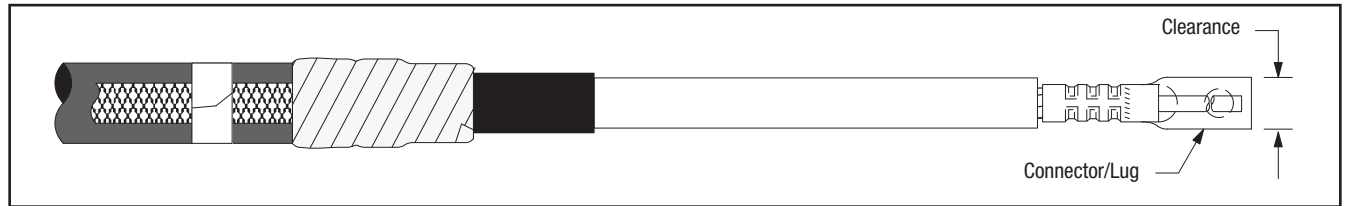

Figure 6
- 4.1 Check to insure 3M Cold Shrink QT-III Silicone Rubber Termination assembly fits over the selected lug or connector BEFORE installing the lug or connector. If lug or connector. (Figure 6) will not fit through the termination core, clean the insulation (per Step 5.0) and slide termination on cable before installing lug or connector. **DO NOT REMOVE CORE AT THIS TIME.**